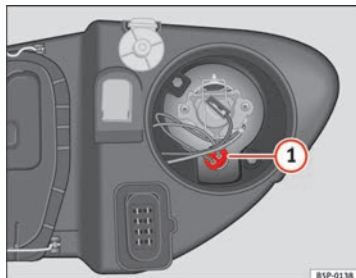

Fig. 169 Side lights
- Extract the bulb holder ⇒ fig. 169 **1** outwards.